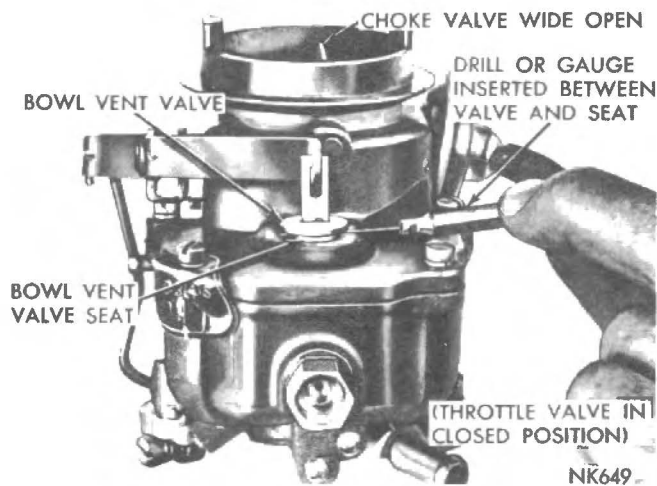

Fig. 13 - Checking Bowl Vent Opening.
(1) Back off the idle adjusting screw. Open the choke valve, so that when the throttle valve is closed, the fast idle adjusting screw will not contact the fast idle cam.
(2) Be sure the pump operating rod is in the medium stroke hole in the throttle lever and that the bowl vent clip on the pump stem is in the centre notch.
(3) Close the throttle valve tightly. It should be just possible to insert a 1/16 inch drill (.060) between the bowl vent and the air horn, as shown in Fig. 13.